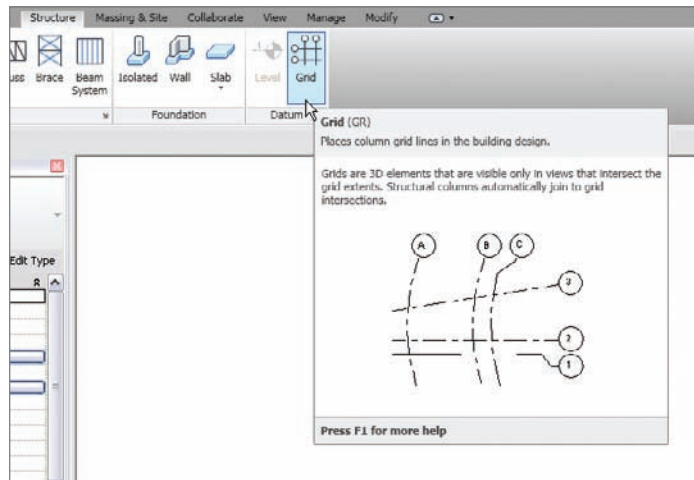

FIGURE 8.1 The Grid button on the Datum panel of the Home tab
3. On the Datum panel of the Home tab, click the Grid button, as shown in Figure 8.1.